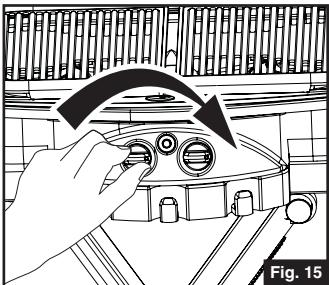

Fig. 15
- Before attaching propane cylinder make sure burner valves are in the OFF position. (Fig. 15)